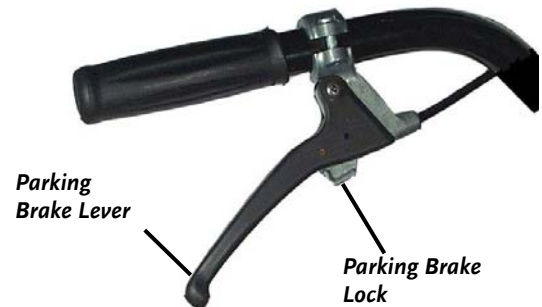

Figure 4
5. Set the Parking Brake by squeezing the Brake Lever (**Figure 4**) on the right Handlebar and lift up on the Parking Brake Lock (**Figure 4**), locking the Lever in place. To release the Parking Brake, just squeeze the Parking Brake Lever again.
2. Set the Parking Brake by squeezing the Parking Brake Lever on the right Handlebar and lifting the Parking Brake Lock (*Figure 4* on page 13).